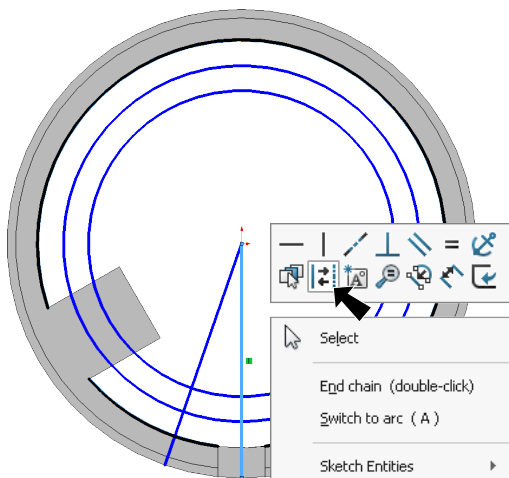

Fig. 85
Step 9. Sketch a **vertical centerline radius from Origin**  to **outside circular edge of cylinder** and **right click** then, click **Construction Geometry**  on the context toolbar, **Fig. 85**.